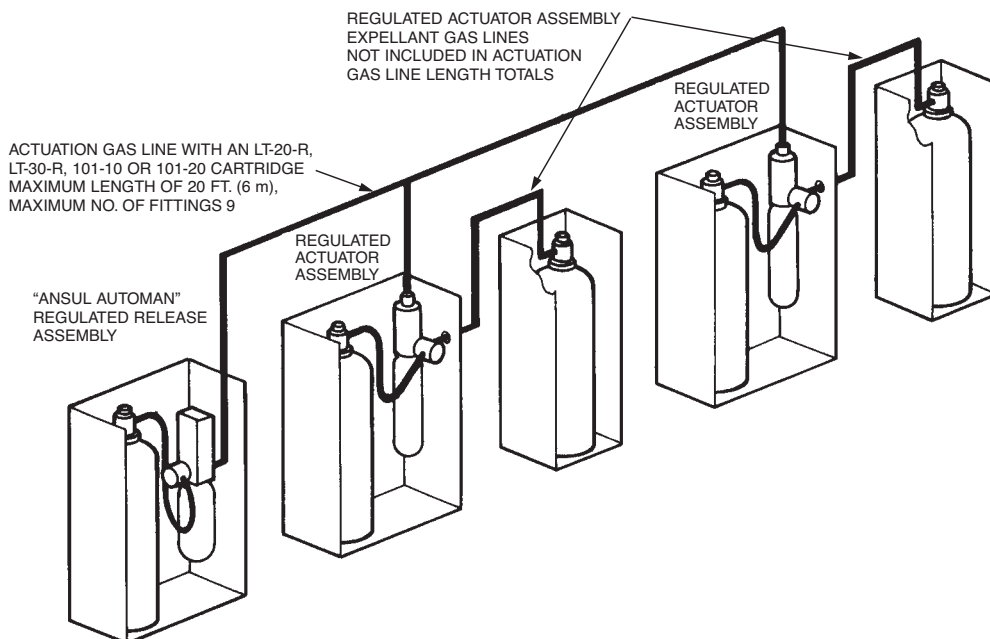

FIGURE 100
2. The actuation gas line piping is installed from the regulated release mechanism to each regulated actuator connected within the system. The total length of the actuation gas line from the regulated release assembly to the regulated actuator assembly(ies) **must not exceed 20 ft (6 m)** when using an LT-20-R, an LT-30-R nitrogen cartridge, or a 101-10 or a 101-20 carbon dioxide cartridge. See Figure 100.